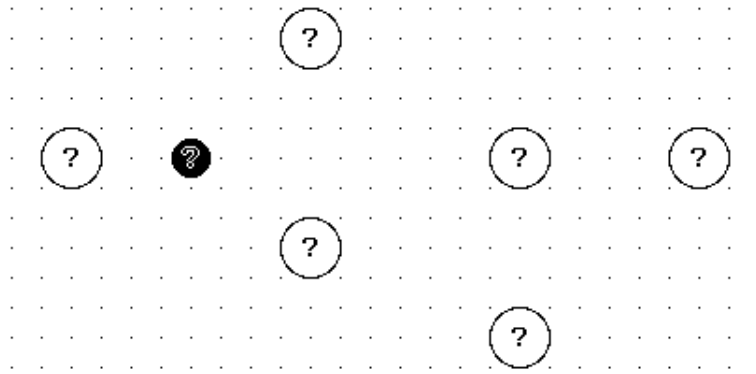

Figure 26: Model editor containing six Markov states and one branching state
- Step 6:** Make one mouse click in the drawing area in order to create the state **Cov**. The drawing area should now look like figure 26.